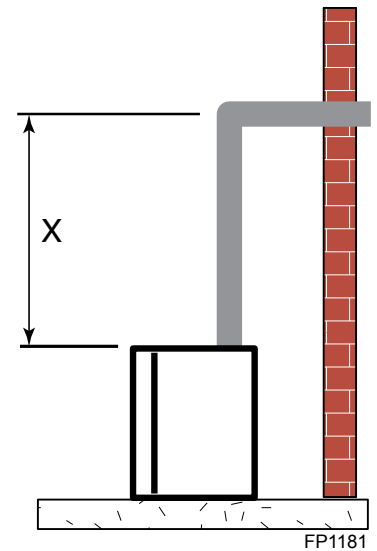

Figure 17 - Vertical Height Requirement
Place fireplace into position. Measure the vertical height (X) required from the base of the flue collars to the center of the wall opening. *Figure 17*